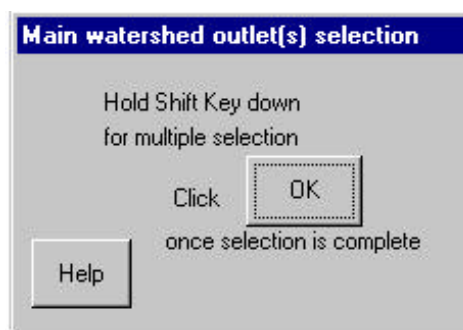

Figure 5.44
1. The *DEM dialog* will minimize and another dialog will appear (Figure 5.44).